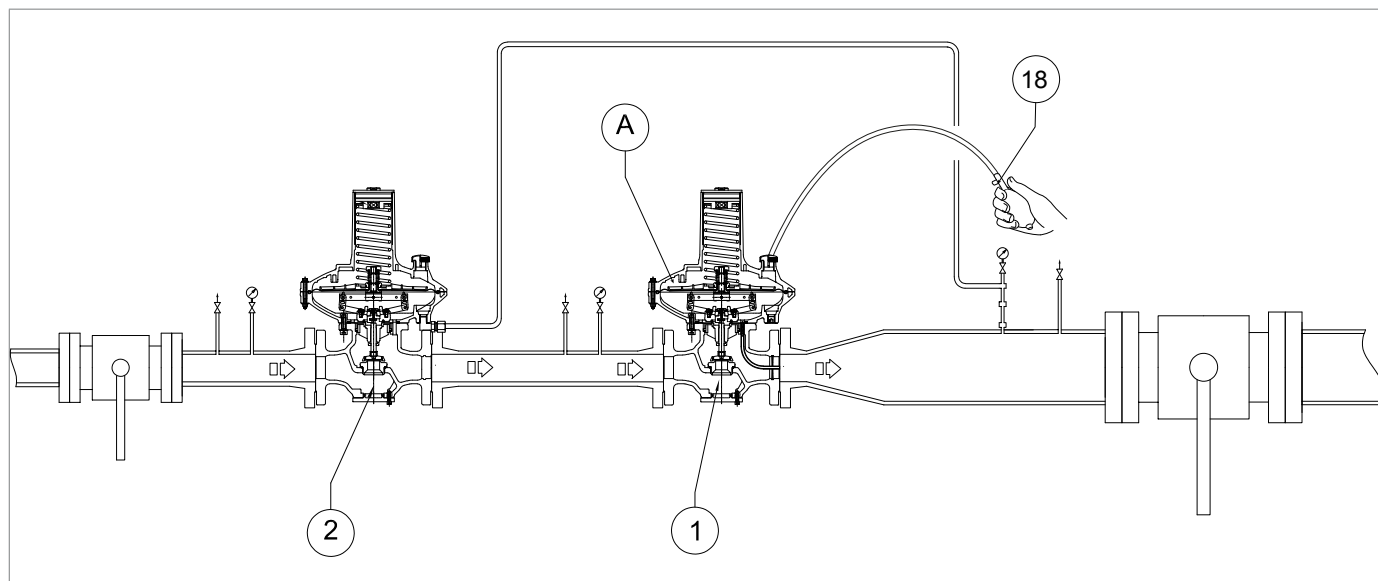
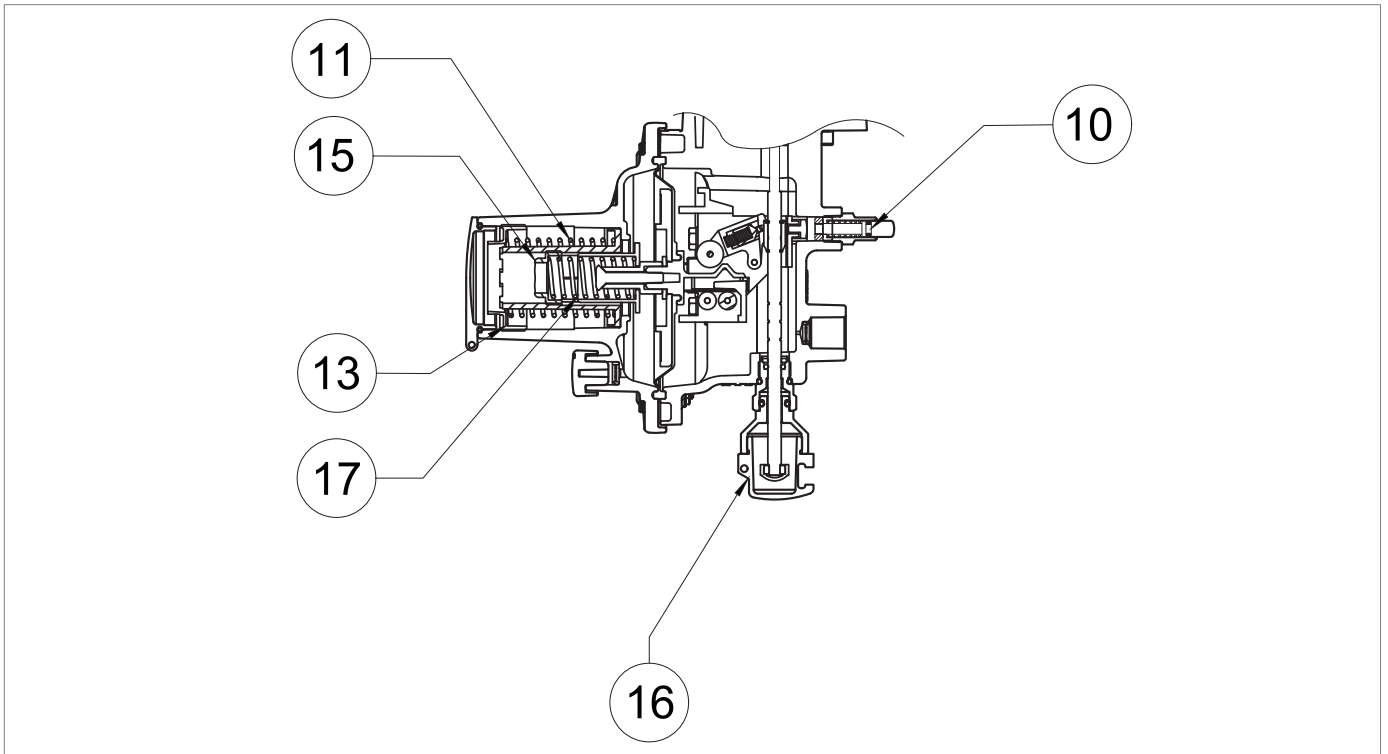

Fig. 8.19. Pressurising with external source (hand pump)
Fig. 8.21. Calibration of pressure switch for LA slam-shut valve
| 1 | <p>Increase the downstream pressure to the tripping value of the slam-shut valve, connecting an external pressure source to the bleed cock (fig. 8.16, ref. 6) placed on the downstream pipe, making sure to open an additional bleed cock (fig. 8.21, ref. 18).</p> <div style="border: 1px solid black; padding: 5px;"> <p>! NOTICE!</p> <p>Check the pressure referring to the downstream pressure gauge (fig. 8.16, ref. 5).</p> <p>If the slam-shut valve:</p> <ul style="list-style-type: none"> • trips before the expected pressure value: screw in (clockwise) the adjustment ring nut (13) so as to further compress the spring (11); • does not trip at the expected pressure value: unscrew (anti-clockwise) the adjustment ring nut (13) so as to relieve the spring (11). </div> |
| 3 | Close the additional bleed cock (fig. 8.21, ref. 18). |
| 3 | <p>If necessary, remove the closing cap (fig. 8.21, ref. 354) together with the adjustment ring nut and remove the regulation spring (fig. 8.21, ref. 328).</p> <div style="border: 1px solid blue; padding: 5px;"> <p>! NOTICE!</p> <p>Check the tripping pressure value of the slam-shut valve indicated on the downstream pressure gauge (fig. 8.19, ref. 5).</p> </div> |
| 5 | <p>After having checked that the slam-shut valve trips at the preset value, proceed as follows:</p> <ol style="list-style-type: none"> Close the air vent valve (fig. 8.16, ref. 6) Position the regulation spring (fig. 8.21, ref. 328), the closing cap (fig. 8.21, ref. 354), and adjustment ring nut (fig. 8.16, ref. 3) Slowly open the upstream shut-off valve (V1) until the downstream pressure value (Pd) reaches the calibration value of the regulator, referring to the downstream pressure gauge (fig. 8.16, ref. 5) Close the upstream shut-off valve (V1) Slowly and partially open the air vent valve (fig. 8.16, ref. 6) to decrease the downstream pressure referring to the downstream pressure gauge (fig. 8.16, ref. 5) until it reaches the minimum pressure tripping value Check the minimum pressure spring for proper calibration by repeating steps 2-3-4 at least three times Calibrate the main regulator referring to par. "8.5 - Regulator commissioning procedure" |